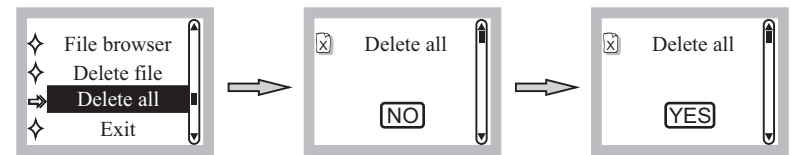

Fig. 27
(3) Delete All: Press **▶** to enter the “Delete all” screen. Press **◀** or **▶** to select “NO” or “YES”. Press **▶** to confirm, Fig. 27.
(4) Note: This function will delete all files in the flash drive, so careful action is highly recommended.